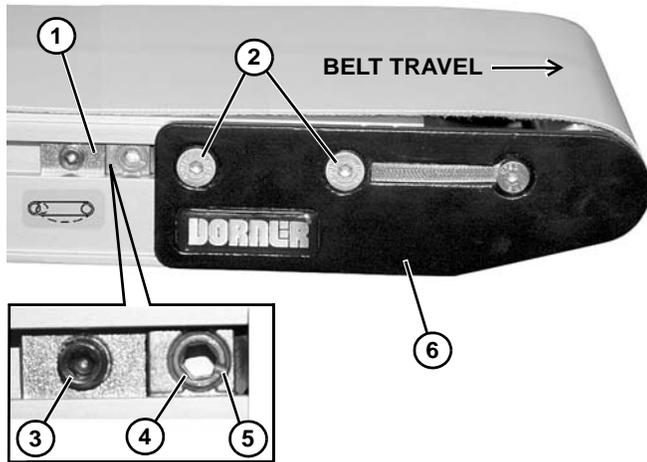

Figure 91
Non V-guided belt conveyors are equipped with belt tracking cam assemblies (**Figure 91, item 1**) for belt tracking adjustment.
1. Ensure head plate fastening screws (**Figure 91, item 2**) on both sides of conveyor are tightened.
2. On both sides of conveyor, loosen cam fastening screw (**Figure 91, item 3**). Adjust cams (**Figure 91, item 4**) until indicator slots (**Figure 91, item 5**) are horizontal and facing end of conveyor. Then slide cam assemblies against head plates (**Figure 91, item 6**) and re-tighten cam fastening screws (**Figure 91, item 3**) to 60 in-lb (7 Nm).
3. On the side toward which the belt is tracking, loosen head plate fastening screws (**Figure 91, item 2**).
4. With the conveyor running, use a 5 mm hex-key wrench to rotate the tracking cam (**Figure 91, item 4**) in small increments until the belt tracks in the center of the conveyor. Then while holding the cam in position, re-tighten the head plate fastening screws (**Figure 91, item 2**) with a 4 mm hex-key wrench to 60 in-lb (7 Nm).